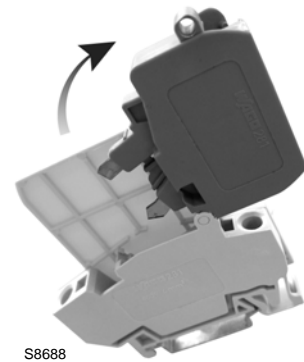

Fig. 20
- unhook as indicated in Fig. 20;